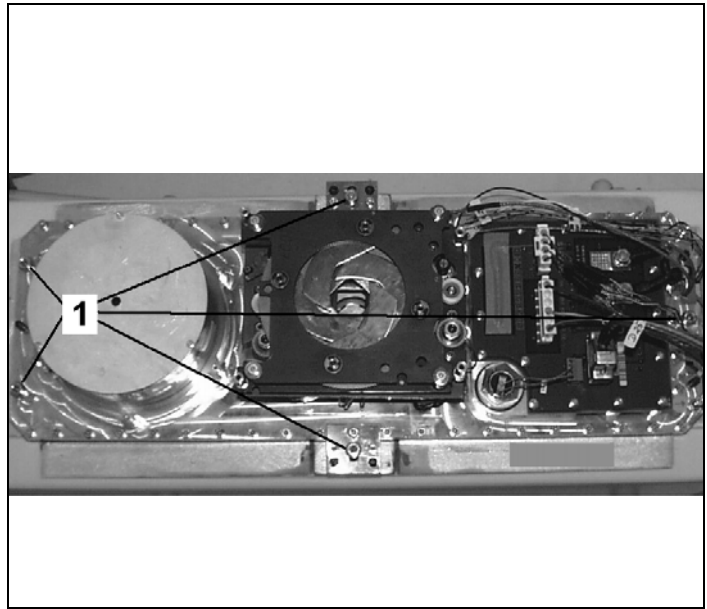

Fig. 7
- Loosen the POWERPHOS mounting screws (1/Fig. 7). Do not loosen any other screws!